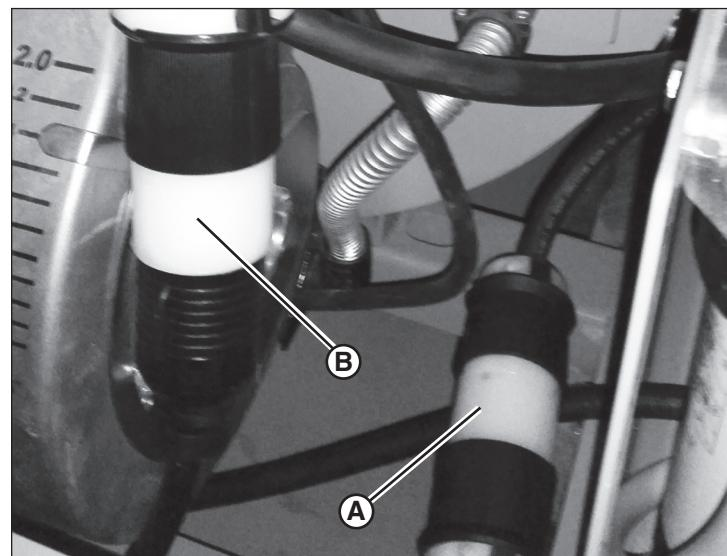

Figure 21
- Locate the electrical connection near the floor of the heating unit control access compartment (A, Figure 21). Unplug the connection.
*NOTE: Use the connector specified (A). Do not use the connector going directly to the heater unit power box (B).*